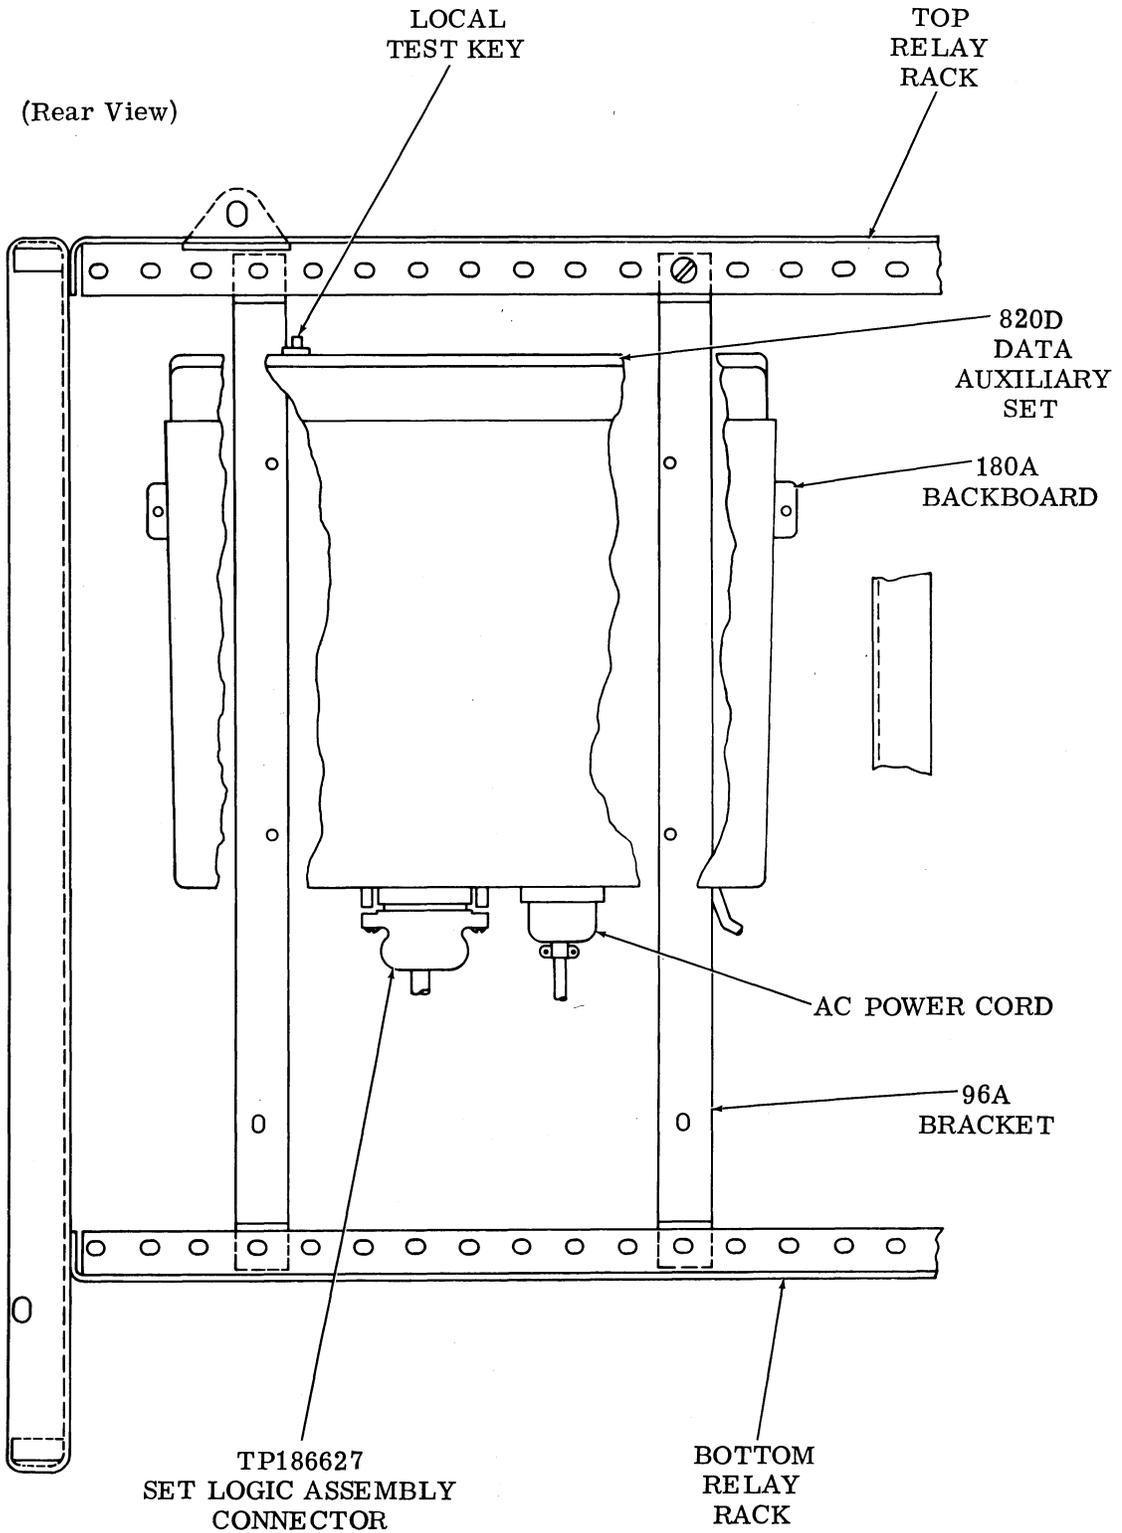

Figure 6 - Mounting of DAS 820D-L1A on M35
5.29 Mount the backboard and bracket assembly to the relay rack in the set cabinet. Secure with four (4) TP153442 screws, four (4) TP2669 lockwashers, and four (4) TP3538 flatwashers (Figure 6).
5.30 Mount the 820D-L1A data auxiliary set to the 180A backboard securing with the two (2) clamps on each side of the backboard (Figure 6).